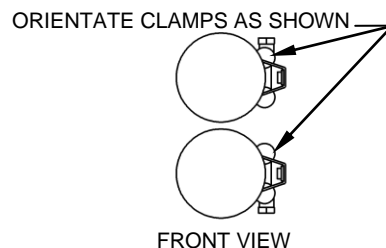

FIGURE 2
12. Remove the muffler assembly from the box and slide two supplied 27-61MSC clamps onto the back muffler tubes. Refer to Figure 2 for alignment.